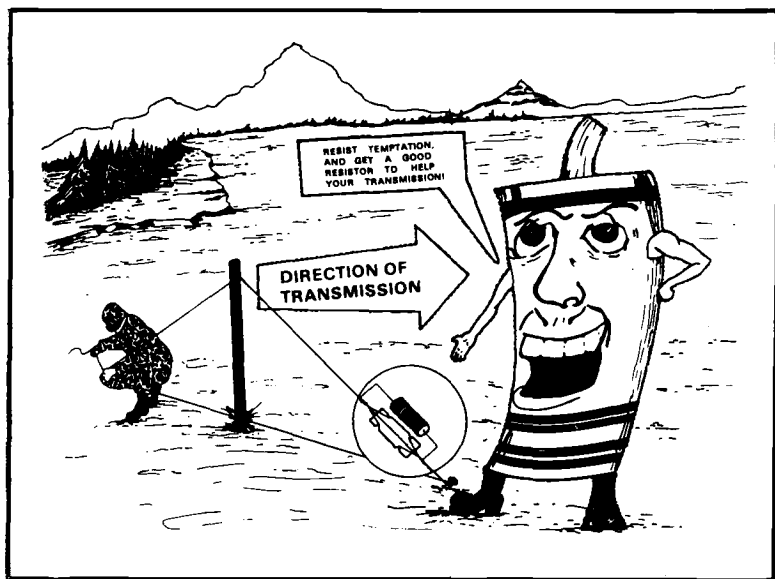

Figure 3-21. Proper resistor.
(1) When one or more wires on an antenna are broken, the antenna can be repaired by reconnecting the broken wires. To do this, lower the antenna to the ground, clean the surface of the wire, and twist the wires together. Whenever possible, solder the connections.
(2) If the antenna is damaged beyond repair, substitute another antenna. If antenna sections are not available, WD-1 (field wire) can be used as a substitute. Ensure the length of the wire is the same length as the original antenna and you have a good wire to antenna contact.
e. Building a good field-expedient vertical half-rhombic antenna calls for a good resistor, not a dead BA-30 battery or a C-rat can full of sand and oil. Plan ahead. If you can, lay in a supply of the 600-ohm 2-watt resistors. Since 600-ohms is not a standard resistor value, you have a choice. Get a 620-ohm, 2-watt resistor with NSN 5905-00-407-6167, or wire 2 1200-ohm, 1-watt resistors in parallel. Get them with NSN 5905-00-369-6916. Then, follow the directions on how to fabricate antennas. Put the resistor on the end nearest your receiving station. Remember, resistor wattage must beat least half of the radio's output wattage. (See Figure 3-21.)